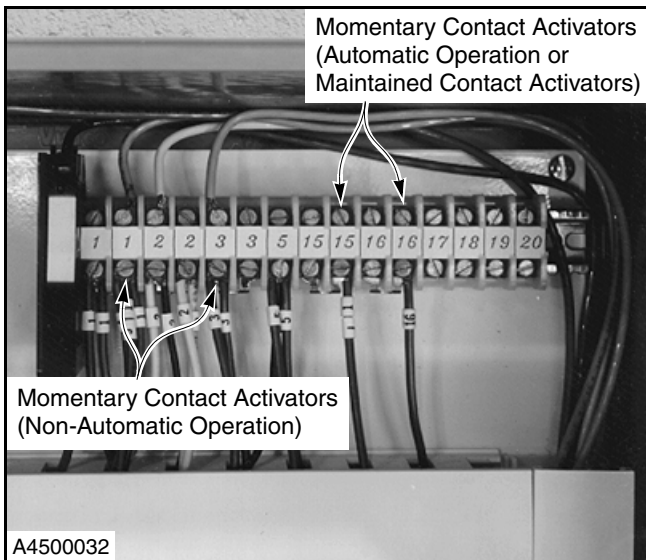

Figure 37
3. Connect momentary contact activators (i.e., push button, pull cord, radio, etc.) as follows: (See Figure 37.)
4. Connect maintained contact activators (i.e., floor loop, photo eye, or motion detector), to terminals 15 and 16. A maintained connection will open the door and the timer will close the door. (See Figure 37.)